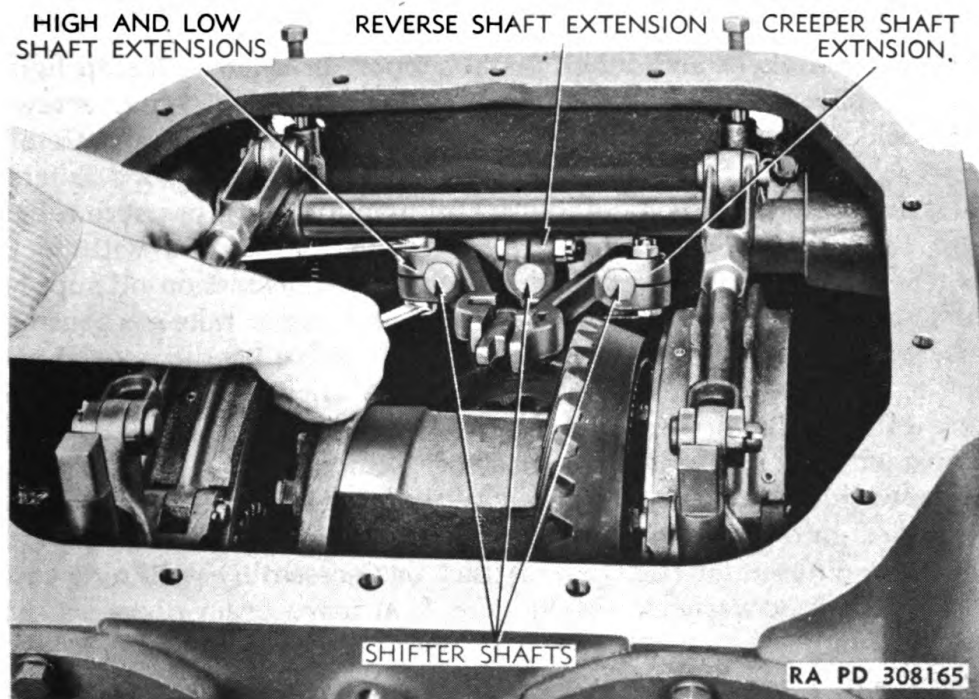

Figure 63 — Installation of Shifter Shaft Extension
e. **Install Shifter Shafts and Forks.** Insert smooth end of creeper gear shifter shaft (longest of the three) through hole in rear of case closest to power take-off side of case, place lower end of creeper gear shifter fork in collar of creeper pinion, and slide shaft through fork and partly into front end of case. Turn shaft so flat side of shaft is down. Slip two shaft plungers with a plunger spring between them into lateral passage in cases at side of creeper gear shifter shaft. Figure 46 shows arrangement of shifter shafts, forks, and plungers. Holding pressure against projecting plunger (fig. 63), slide shaft further until plunger is felt to engage lock notch in side of shaft. Next insert reverse shifter shaft which has notches in both sides and tap through center hole at rear of case. Place lower end of reverse gear shifter fork in collar of creeper gear with offset at top of fork toward rear of case and slide shaft through fork and into front end of case
d. Install Shifter Shaft Extensions. Install shifter shaft extensions on front ends of transmission shifter shafts as shown in figure 63. Position extensions so they are flush with ends of shaft, then tighten clamp bolts and install cotter pins in bolts. Adjust shifter shafts as explained in paragraph 20 f. With all gears in neutral position (fig. 12), the notches in extensions on reverse (center) and creeper (left) shifter shafts should now be even. Adjust creeper shaft exten-